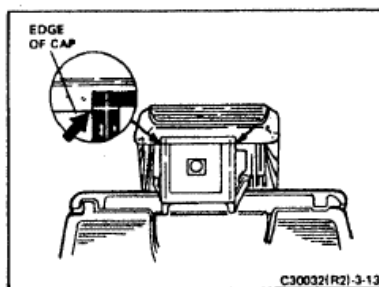

FIGURE 3-13 ALIGNING THE EXIT PUPIL GAGE
- c. Align the bottom of the viewfinder cap with the horizontal white line on the front of the gage. Center the eyelens supports with the vertical white lines (Figure 3-13).